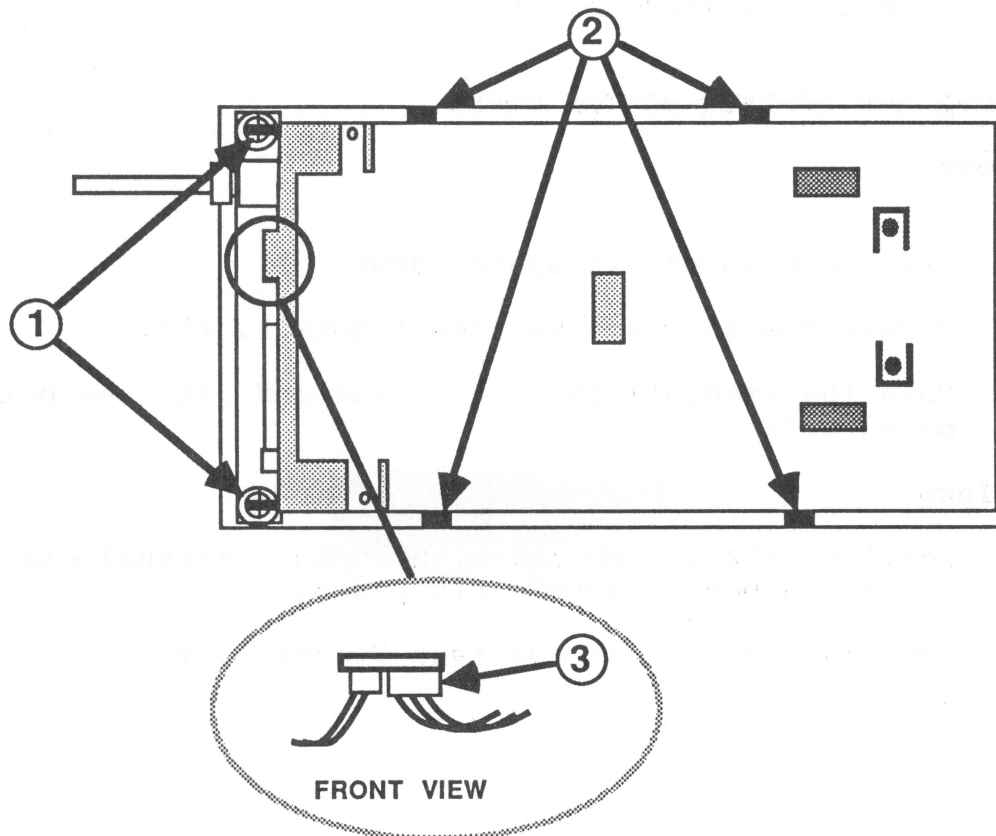

FIGURE 2
2. There are washers with black wire guides connected to them which are held in place by the screws. Bend the black wire guides on top of each screw out of the way (see Figure 2, #1) and remove the two screws (see Figure 2, #1).
3. Remove the four small black rubber guides from the sides of the case with needlenose pliers (see Figure 2, #2).
5. DO NOT PULL ON THE WIRES. Disconnect the eject button connector (see Figure 2, #3) by gently prying off the connector with a small flathead screwdriver.
2. Replace the two screws and the washers with the black guides to hold the wires in position (see Figure 2, #2).
3. Replace the four black rubber guides to hold the wires in position (see Figure 2, #2).
4. Connect the eject button connector (see Figure 2, #3).